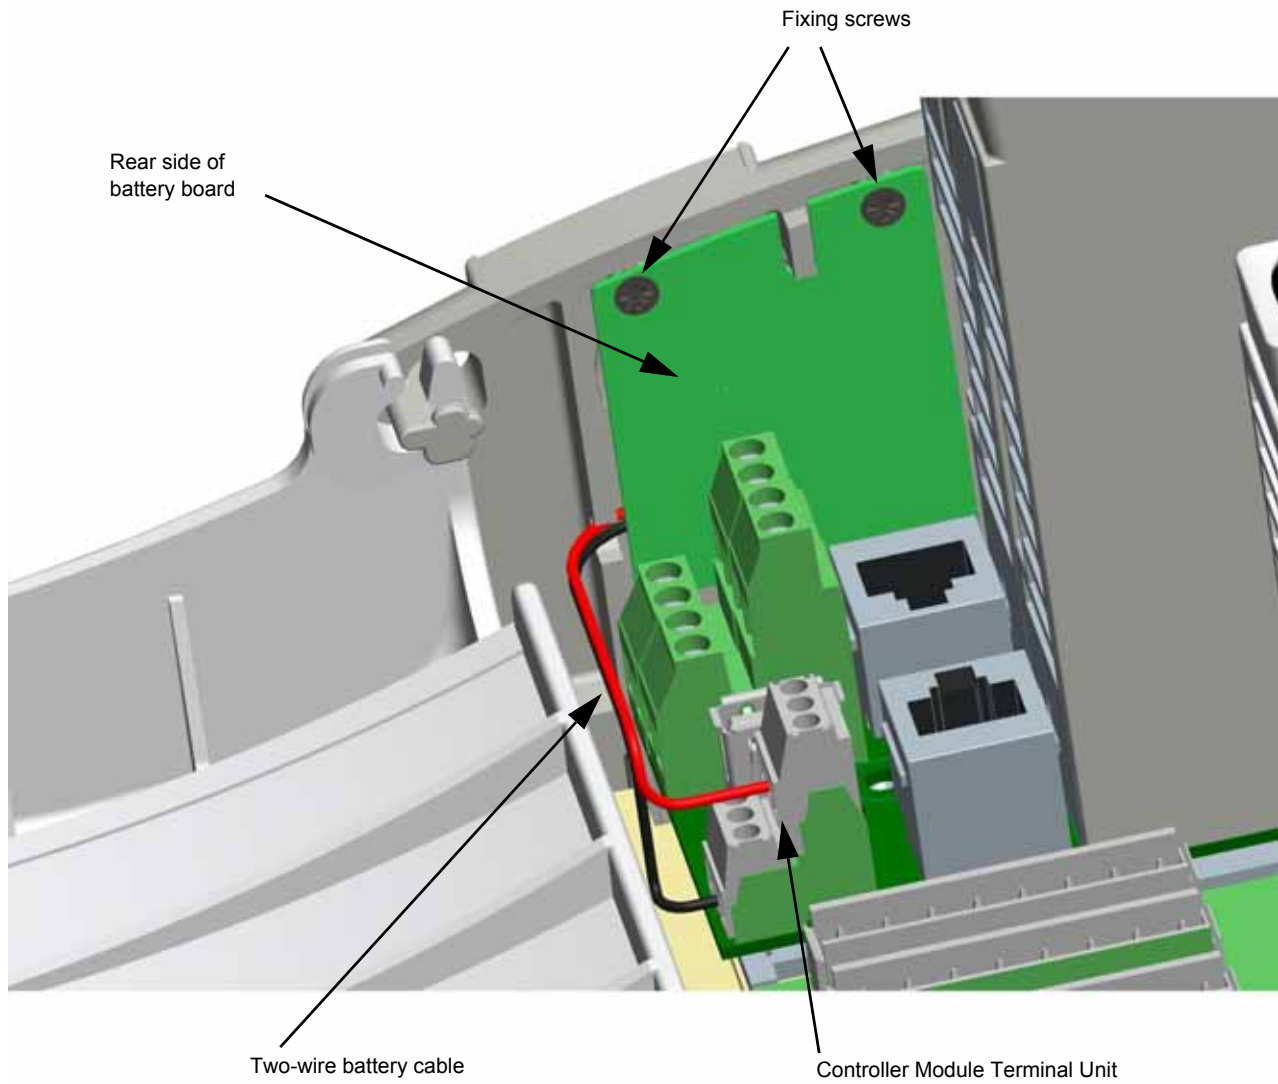

Figure 39: Battery board in place
2. Locate the back of battery board (Figure 39): It is on the inside of the plastic side panel to the left of the controller module, and is fixed in place by two screws. A two-wire cable runs from the front of the battery board to the controller module terminal unit; the red wire connects to the **B+** terminal, the black wire connects to the **B-** terminal. Eurotherm recommends leaving these wires connected to the terminals whilst replacing the battery.